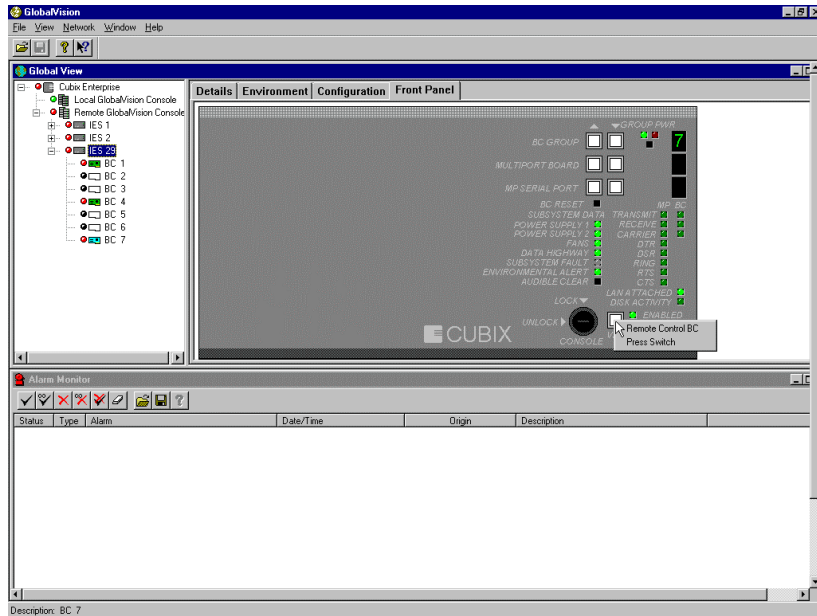

Figure 131 – Remote Control BC menuue item from Video Select button on ERS/FT II
1. Click the **Remote Control BC** menu item from the VIDEO SELECT button on the ERS/FT II. See Figure 131. Click the Remote Control BC menu item from the SELECT CHASSIS button on DENSITY, See Figure 132.
1. Click on the **Press Switch** menu item from the VIDEO SELECT button to disable input and output. The video output will cease and the computer board will be unable to accept keyboard and mouse input. See Figure 131.
2. Click on the Press Switch menu item from the VIDEO SELECT button to enable input and output. The video output will resume and the computer board will be able to accept keyboard and mouse input. See Figure 131.